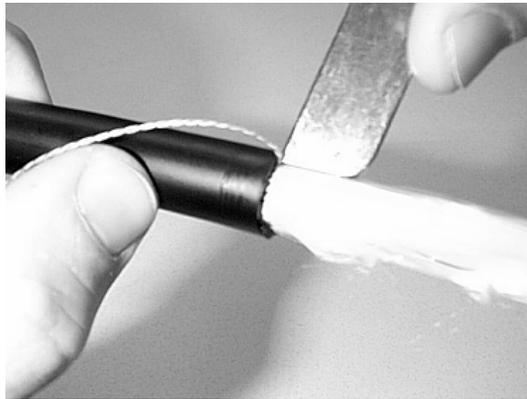

Figure 25 – Cut a starting slit adjacent to the ripcord.
7.7 Locate the ripcord and cut a small “starter slit” in the sheath next to the ripcord (Figure 25).